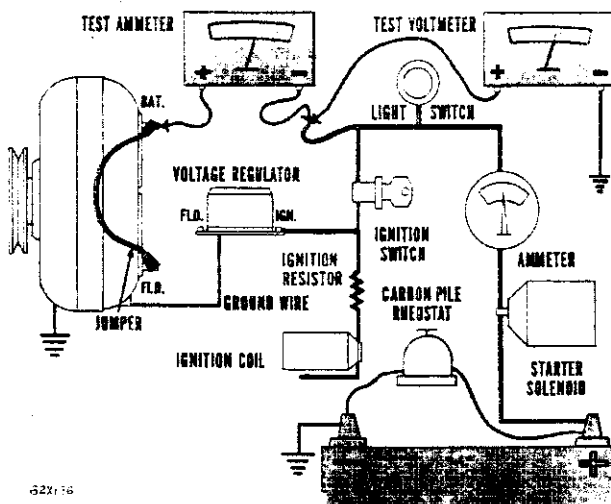

Fig. 48—Current Output Test
c. Current Output Test (Fig. 48)
- (1) Disconnect the battery ground cable.
- (2) Disconnect the "BAT" lead at the alternator output "BAT" terminal.
- (3) Connect a 0-50 ampere scale D.C. ammeter in series between the alternator "BAT" terminal and the disconnected "BAT" lead.
- (4) Connect the "positive" lead of a test voltmeter to the output "BAT" lead. Connect the "negative" lead of the test voltmeter to ground.
- (5) Disconnect the field "FLD" lead at the alternator and at the regulator.
- (6) Connect a "jumper" lead from the alternator field "FLD" terminal to the alternator output "BAT" terminal. Be sure the ammeter lead is satisfactorily connected to the output "BAT" terminal.
- (7) Connect the engine tachometer. Connect the battery ground cable.
- (8) Connect a battery-starter tester (equipped